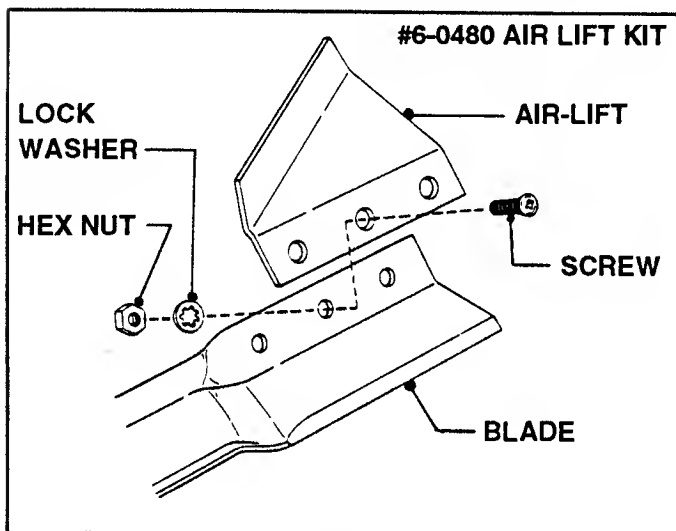

FIGURE 1
1. AIR LIFT INSTALLATION: The mower being prepared should have air lifts on the blade tips. The air lifts should be installed only on the tips of the blade located on the right or discharge side of the deck. Assemble the air lifts to the topside of the blade tips per instructions furnished in the air lift kit. See Figure 1.